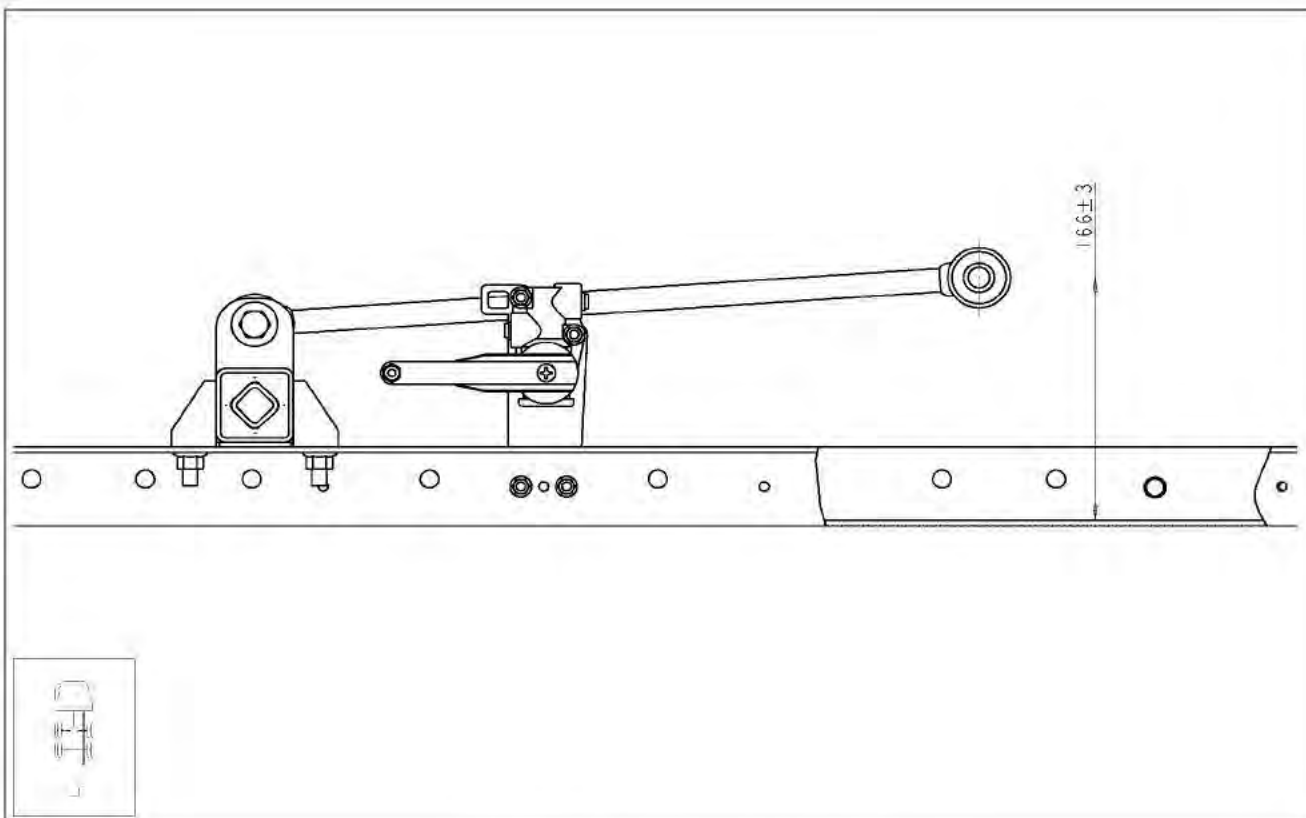

Figure 4 – Panhard Rod Height
5.3 Panhard rod height requirement (Figure 4)
For proper life of the panhard rod bushings, the height should be set accordingly. For a new installation of cab to chassis at the factory, the height of the panhard rod at the connection end to the cab should be 166+/-3 from the bottom surface of the crossmember. See figure 4.